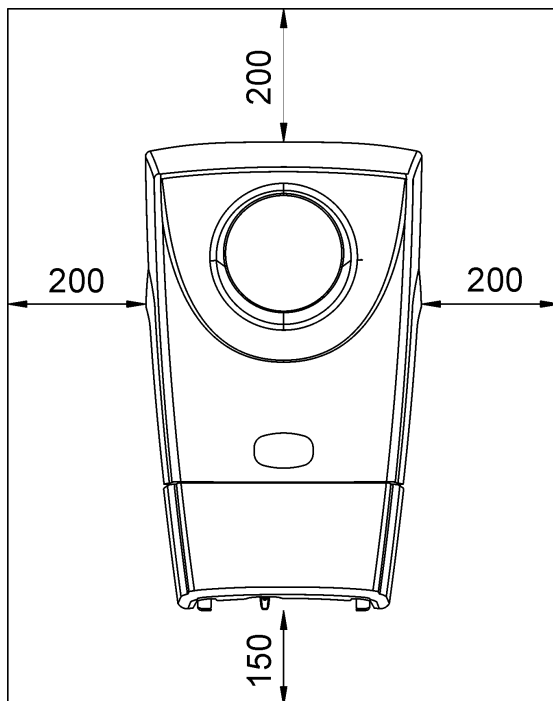

Figure 9: Minimum clearance (in mm) for proper ventilation of the SUNWAY M XS
1. Find an installation site suitable for the inverter, allowing adequate clearance as mentioned in Figure 9. The clearance below allow easy mounting and proper ventilation.